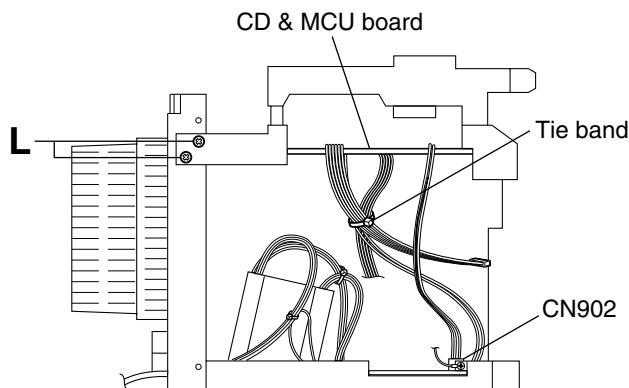

Fig.14
2. From the left side of the main body, remove the tie band bundling the wires. (See Fig.14.)
3. Disconnect the wire from the connector CN902 on the power board. (See Fig.14.)
4. From the left and right sides of the main body, remove the four screws L retaining the CD rear mount bracket. (See Figs.14 and 15.)